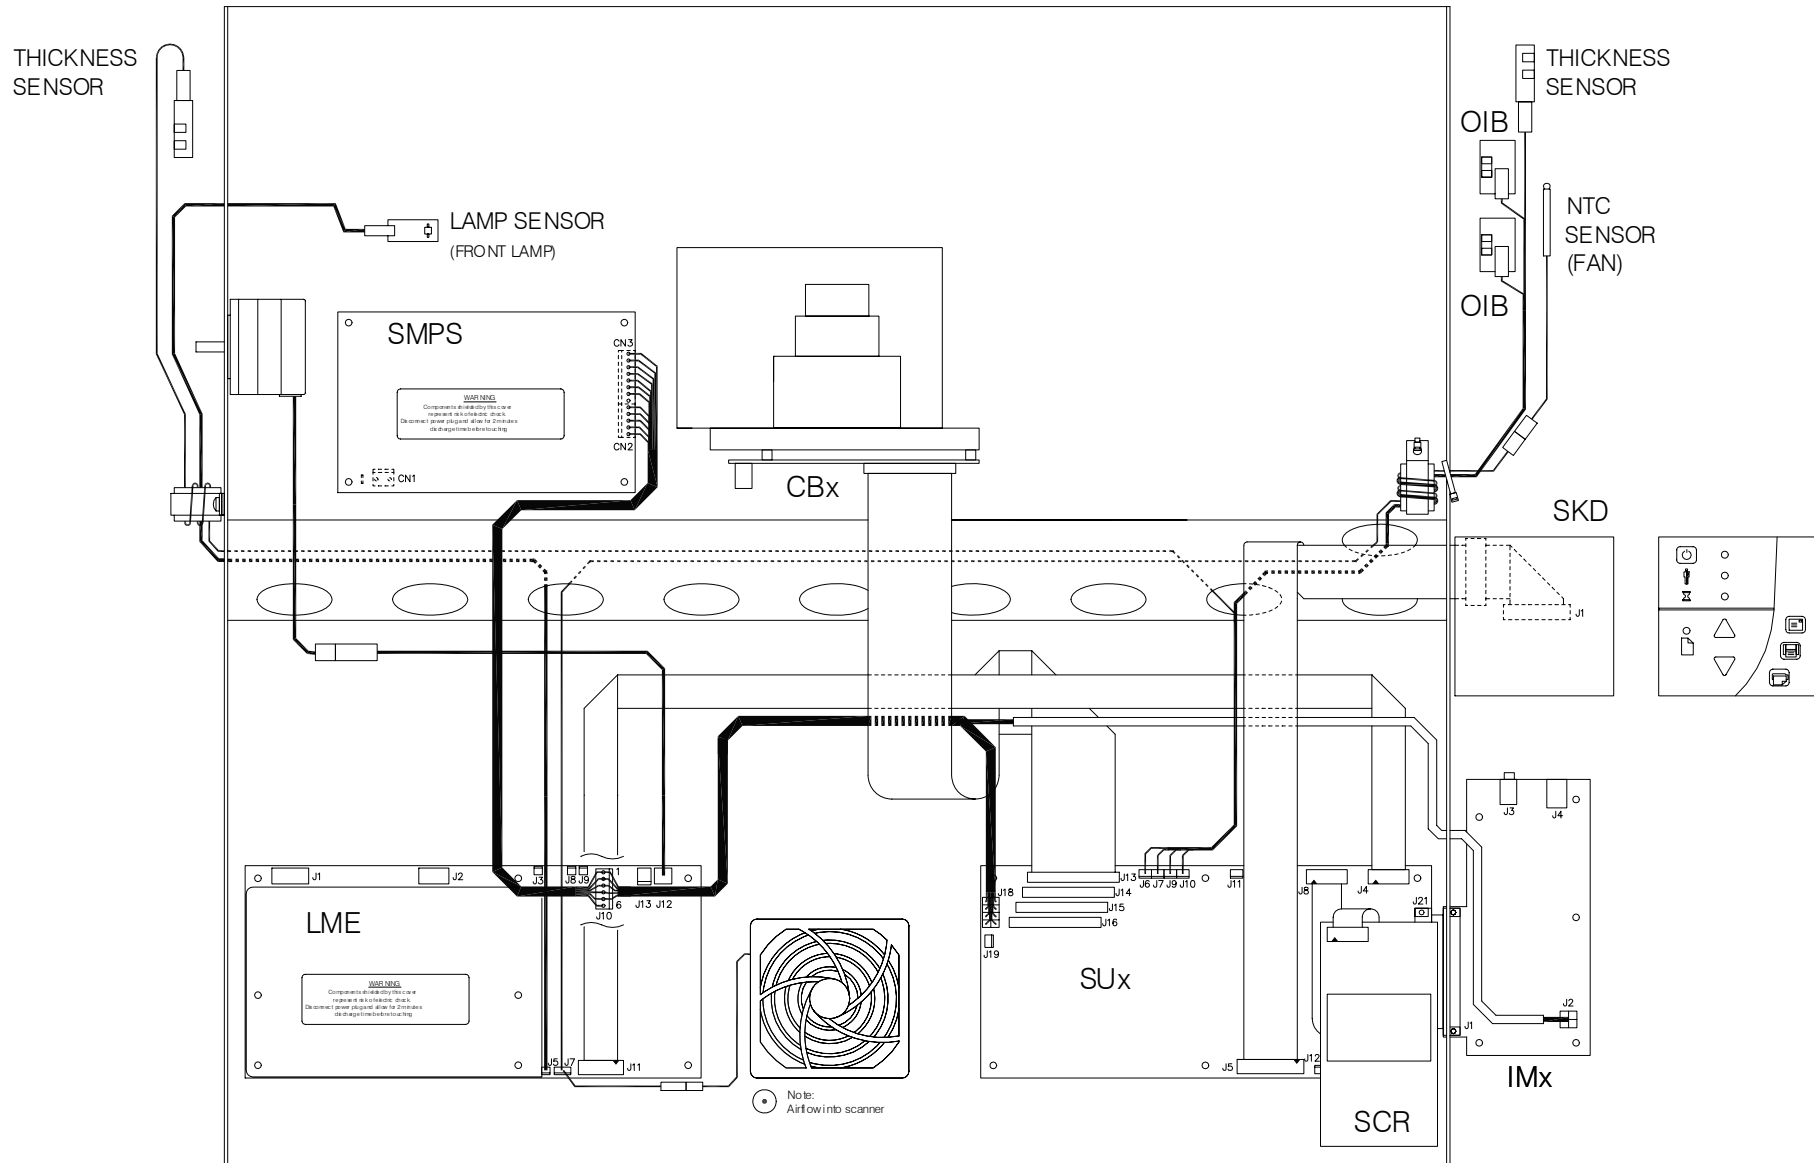

Fig. 11-4 CHAMELEON 25 Secondary Wiring
- Fig. 11-4 CHAMELEON 25, Secondary Wiring, page 182